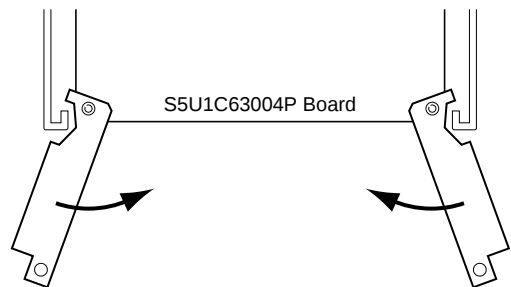

Fig. 2.1.2
- (3) Once the S5U1C63004P board has been inserted almost fully into the ICE, secure it in position by using the jig supplied with the ICE (see Figure 2.1.2).
- (4) When the above is done, replace the front panel.